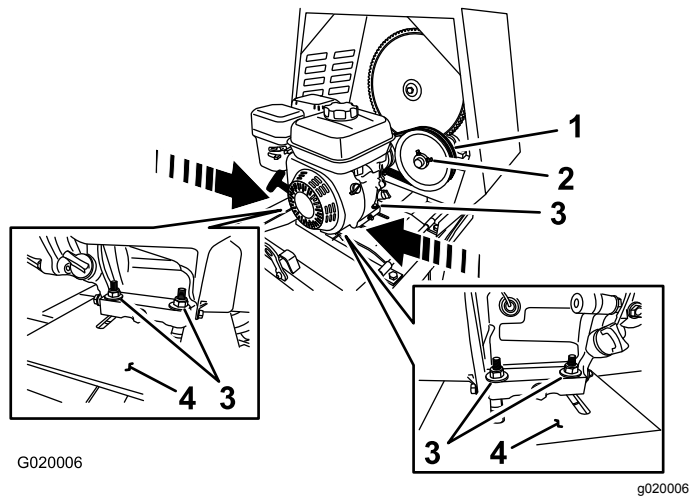

**Figure 63**
- D. Align a straightedge across the engine pulley and the idler pulley (Figure 63).
- E. If necessary, pivot the engine on the engine deck until the engine pulley and idler pulley are aligned to the straightedge (Figure 63).